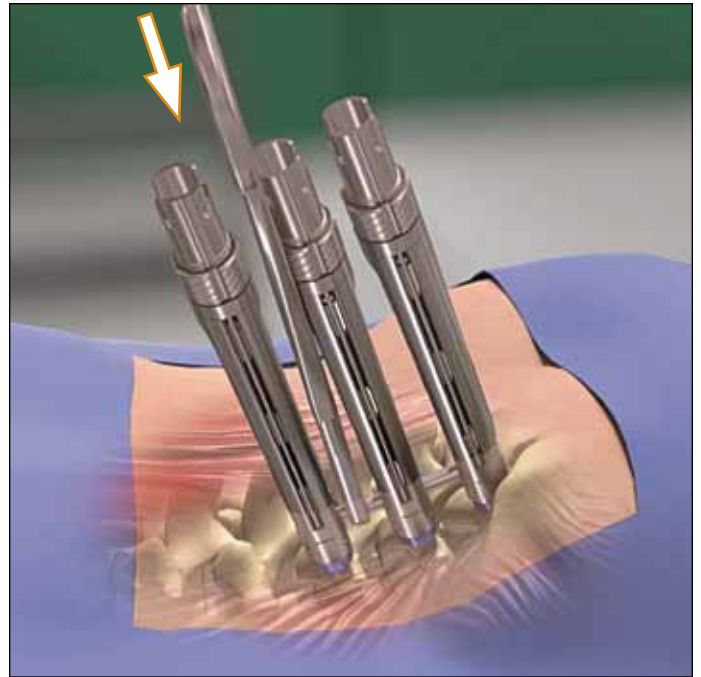

FIG. 25
- Advance the rod down the Screw Extensions until the rod is fully seated in the screw heads. (FIG. 25)